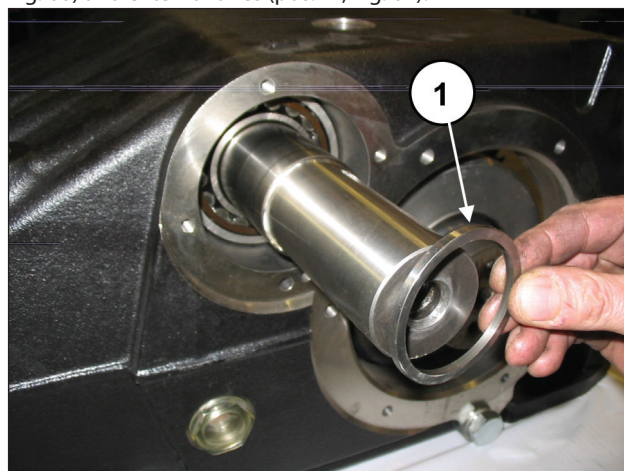
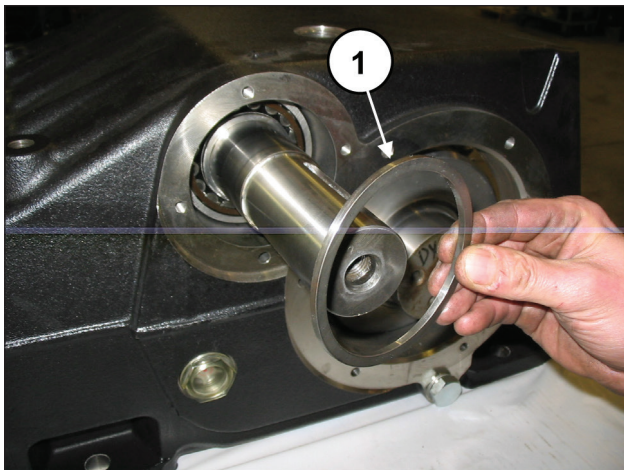

Fig. 60
Fig. 61
At both sides, insert the internal bearing spacers (pos. ①, Fig. 60) and external ones (pos. ①, Fig. 61).